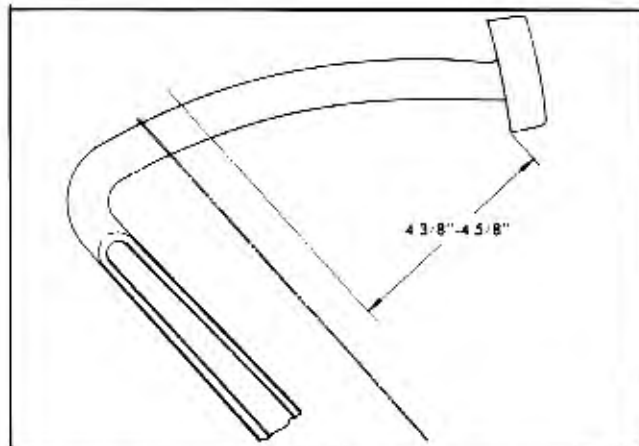

Fig. 5-6 Correct Brake Pedal Height
1. Jack up all wheels, and inspect brake pedal height. Distance from floor mat to underside of pedal pad should be $4\frac{3}{8}$ "- $4\frac{5}{8}$ " (Fig. 5-6). If necessary, loosen locknut and adjust master cylinder push rod to give correct pedal height. On Synchro-Mesh transmission cars, see that clutch pedal is at same height as brake pedal (adjust clutch pedal height if necessary). **NOTE:** If dust boot is stuck to push rod, it should be loosened before making adjustment. Make sure push rod locknut is tightened securely after making adjustment.